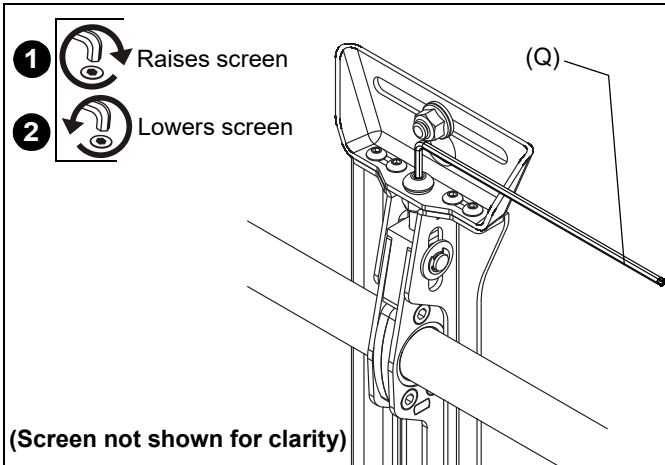

Figure 16
1. Turn to right (tighten) to raise side of screen. (See Figure 16)